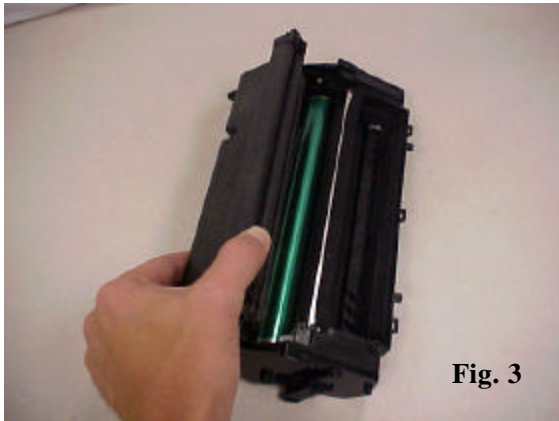

Fig. 3
4. Remove the waste bin section from the cartridge body. This section contains both the wiper blade and PCR (Fig. 3).